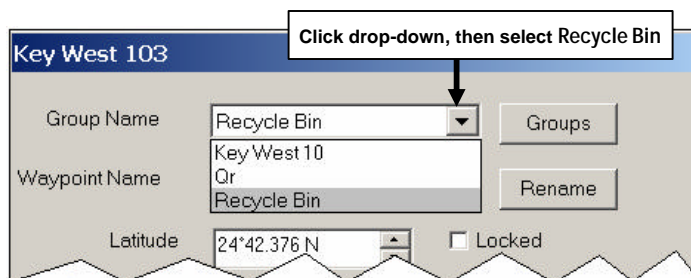
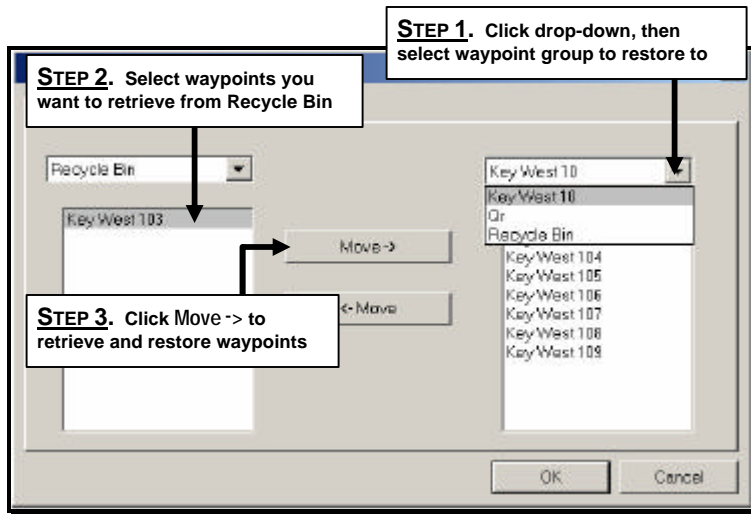

Figure 4-25. Selecting the Recycle Bin
Figure 4-26. Retrieving Waypoints From The Recycle Bin
2. As shown in Figure 4-25, click the **Group Name** drop-down, then select **Recycle Bin** from the displayed choices. The Move Waypoints Between Groups dialog box is displayed (Figure 4-26).
3. From the left-most drop-down, select the waypoint group you want to restore waypoint to (Figure 4-26).